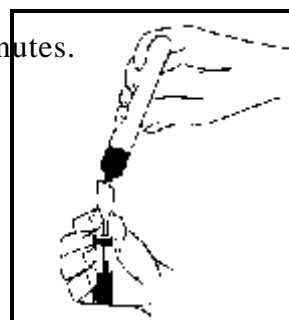

Figure 3
5. Place a polyethylene filter funnel in one of the 20 mL glass vials marked with the sample number. Position the black-capped test tube directly over the top of the funnel and open the dispenser nozzle (See Figure 3). Dispense the solution by carefully squeezing the sides of the tube. Stop as soon as the first drop of oil appears. Allow the solution to pass through the funnel, but remove the funnel before any oil can get through. Allow the solution to cool for five minutes. The sample is now ready for analysis.
7. Place a polyethylene filter funnel in one of the 20 mL glass vials marked with the sample number. Position the black-capped test tube directly over the top of the funnel and open the dispenser nozzle. (See Figure 3) Dispense the solution by carefully squeezing the sides of the tube. Stop as soon as the first drop of the organic solvent appears. Allow the solution to pass through the funnel, but remove the funnel before any oil can get through. Allow the solution to cool for five minutes. The sample is now ready for analysis.
7. Place a polyethylene filter funnel in one of the 20 mL glass vials marked with the sample number. Position the black-capped test tube directly over the top of the funnel and open the dispenser nozzle (See Figure 3). Dispense the solution by carefully squeezing the sides of the tube. Stop as soon as the first drop of oil appears. Allow the solution to pass through the funnel, but remove the funnel before any oil can get through. Allow the solution to cool for five minutes. The sample is now ready for analysis.